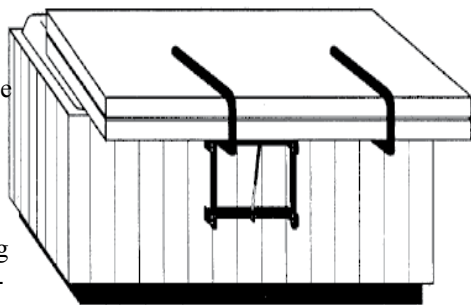

fig. 6
7. Fold back spa cover at the seam and simply slide cover straight back into the cover brackets. The spa cover can be “slid back” from either the side or back. Once the spa cover is all the way back into the cover brackets (fig. 6), push evenly on back edge of spa cover or cover brackets to swing down the Cover Caddy into closed position.